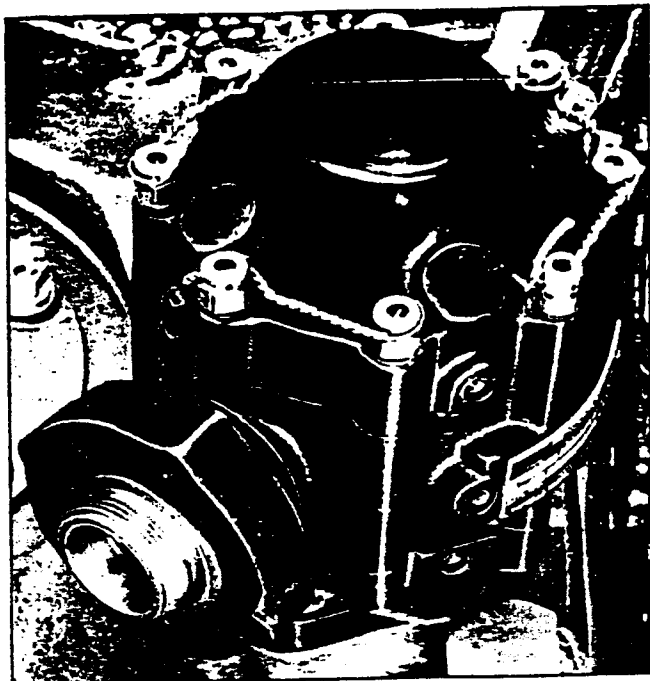

Figure 30. Magneto Pressurizing Pump
(3) MAINTENANCE.- Replace damaged harness, or harness proved faulty by a continuity check.
(4) INSTALLATION.- Secure the rear of the harness with the screws and clamp. Tighten the magneto pressurizing pump connection and the nut which secures the manifold to the circular harness.
f. MAGNETO PRESSURIZING EQUIPMENT. (See figure 30.)
(1) DESCRIPTION.- The magnetos are pressurized to prevent the flashover which tends to occur in unpressurized ignition systems operating in the rarefied atmosphere of high altitudes. The rotary type pump that pressurizes the magnetos is mounted on the upper left side of the accessory drive case and is driven by the magneto pump drive